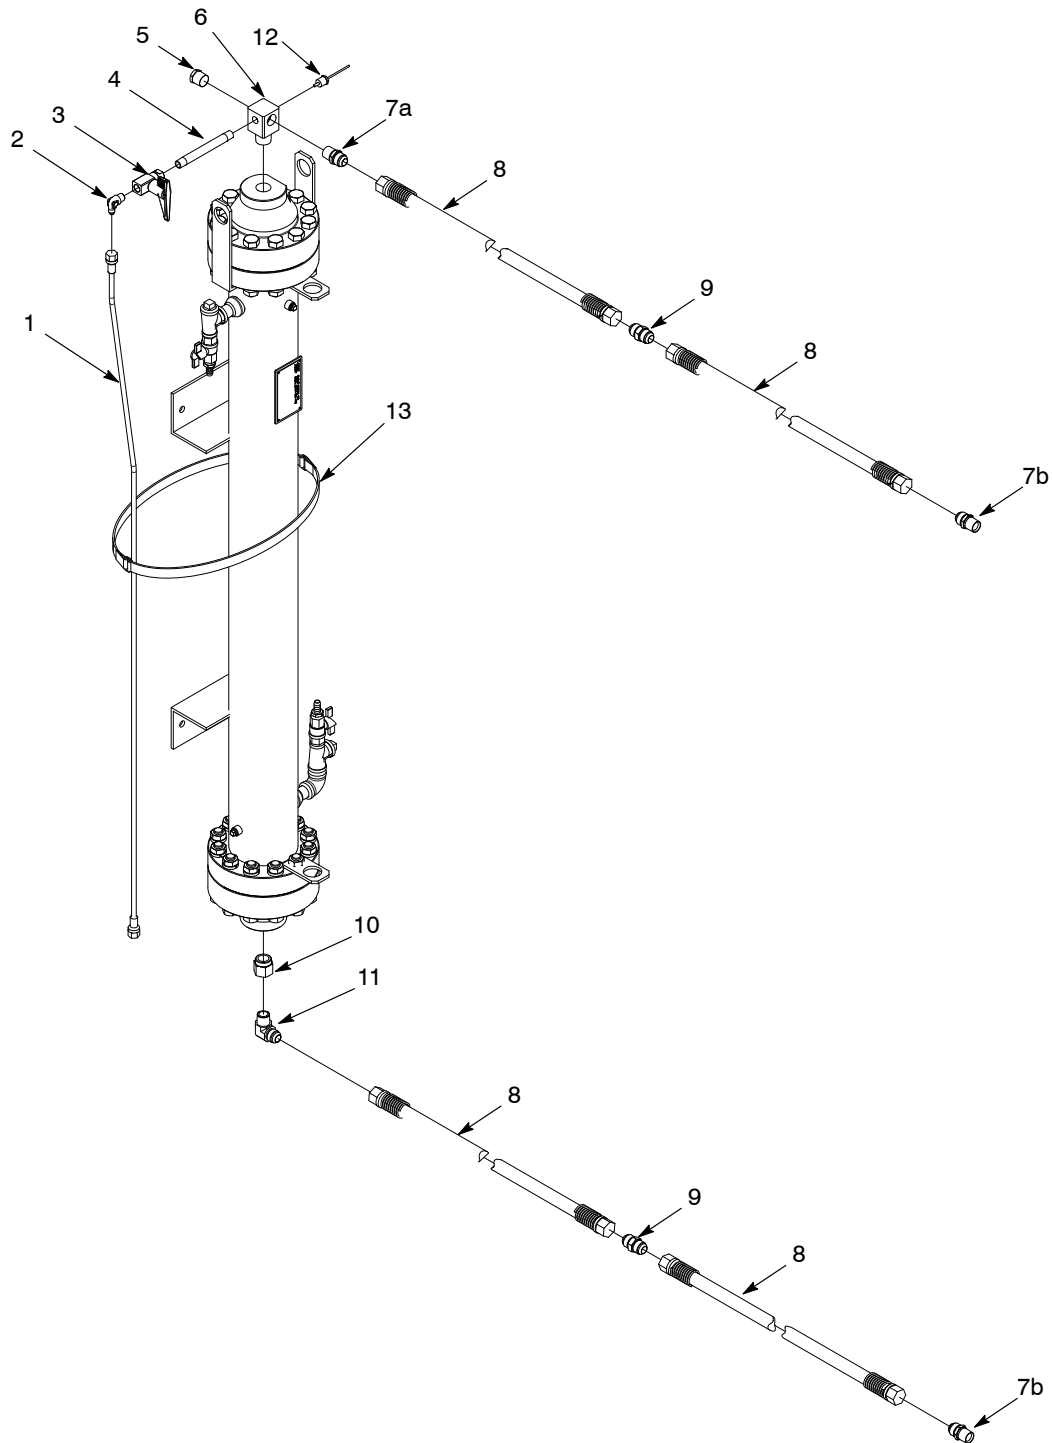

Figure 1 Heater Exchanger Assembly
1. Install all kit items (1 – 11) as shown in Figure 1.
2. Use the Velcro[®] straps (13) to secure the bleed off hose (1) to the heat exchanger.
3. Thread the RTD sensor (12) into the adapter (6).
4. Install items (1 – 11) as shown in Figure 1.